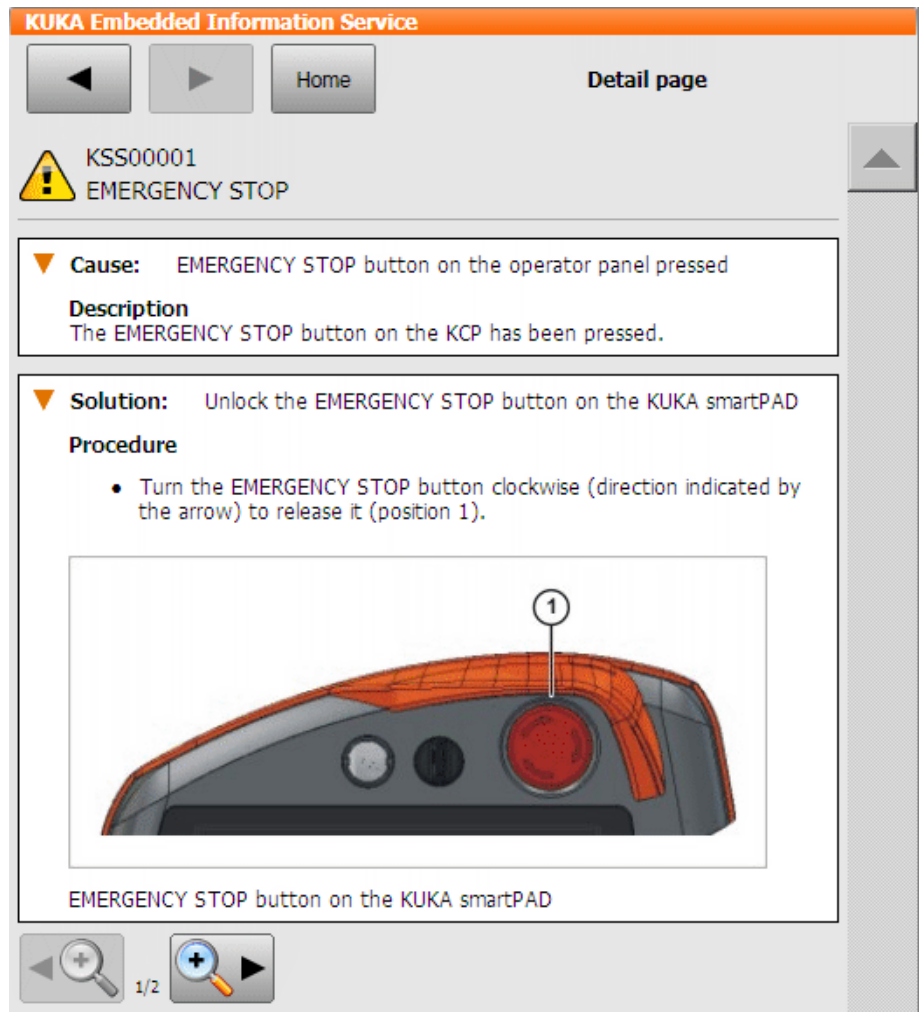

Fig. 4-11: Detail page – Example from the KUKA System Software
- a. Touch the magnifying glass button next to the cause. The detail page is opened. (>>> Fig. 4-11)
6	Displays details about this cause/solution. (>>> Fig. 4-11)